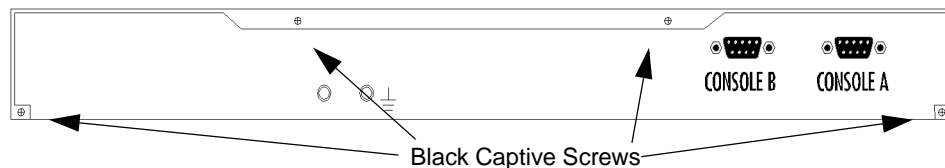

Figure 6-1. Location of Black Captive Screws
- b. Use a #1 Phillips head screwdriver to loosen the four black captive screws on the rear of the SA 100 (see **Figure 6-1**).